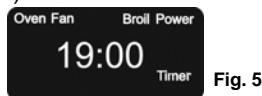

Fig. 5
3. Press timer/temp button for the timer. Press the increase/decrease button. Each time the button is pressed the time will change in one (1) minute increments. Set at 15 minutes for preheating. If you hold down the increase or decrease button, the increments will change rapidly. Press the start button. (Fig. 5)